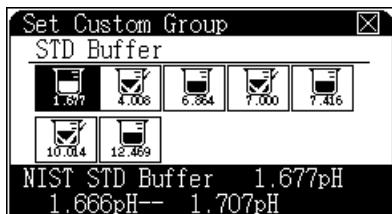

Figure 20 Selecting a buffer for use or calibration (example NIST buffer group shown)
- 2 Use arrow keys to highlight the target buffer group and press [**Setup**]. The meter shows the buffers available in the group. See Figure 20.